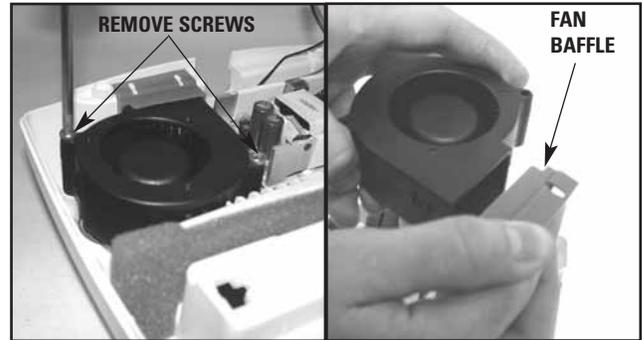

FIGURE 6.5
2. With #1 Phillips screwdriver, remove the 2 screws securing the Fan. See Figure 6.5.
4. Remove Fan Baffle from fan. See Figure 6.5.